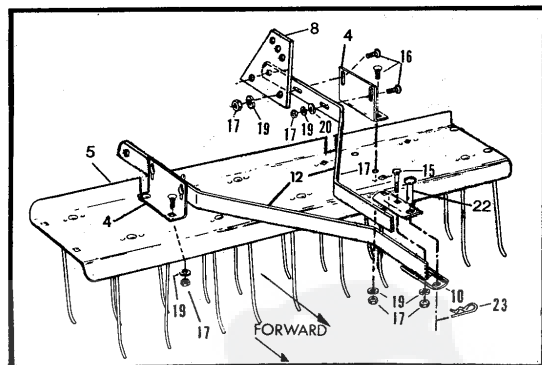

Fig. 2
- Lay the Tine Tray (5) upside down. The "dimples" will project upward.
- The Tines (2) must be installed with the "Tips" facing the front flange. Attach the ten Tines (2) to the Tray (5) using 5/16" x 1" Carriage Bolts (16), Special Washers (3), 5/16" Lock Washers (19) and 5/16" Hex Nuts (17). NOTE: Leave the SECOND Carriage Bolt from RIGHT SIDE, near rear of Tine Tray, loose for assembly of Mount Bracket (4) in Figure 2.
- Insert each of the two Safety Wires (13) through the coils of each roll of Tines. Using Pliers, bend the ends of wires as shown in Illustration "A". Be sure each end is bent completely over the straight portion of the Safety Wire.
Refer to Figure 2.